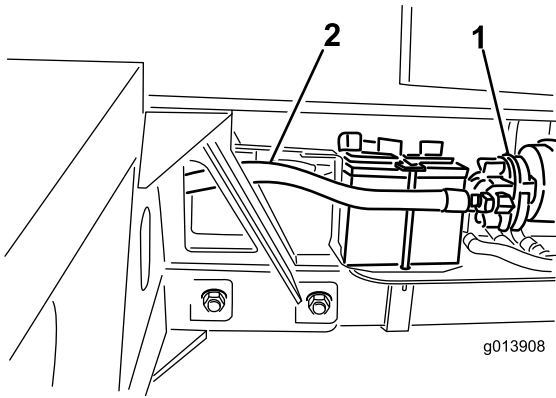

Figure 12
9. Connect hydraulic hose #4 to the suction side of the hydraulic pump (Figure 12).